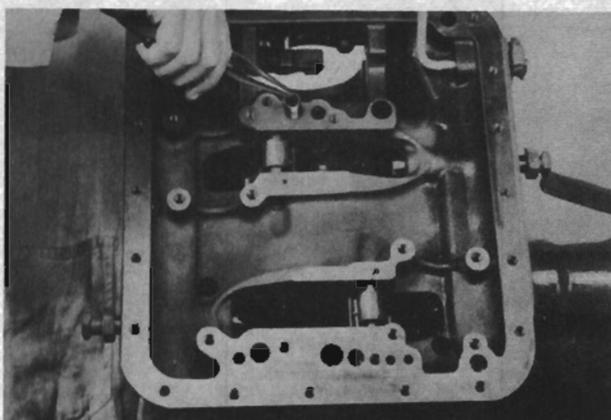
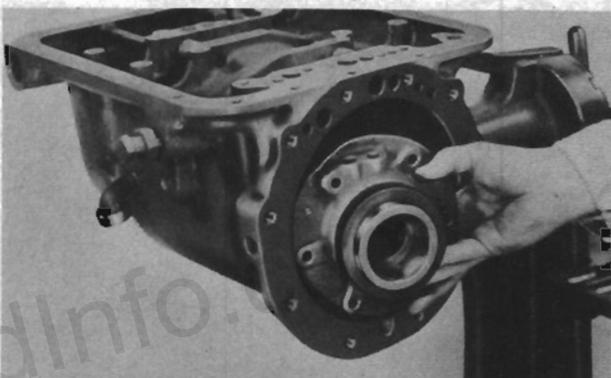

FIG. 301
FIG. 302
Remove the rear pump outlet tube (see Fig. 301) and the governor pressure tube from the transmission case and the rear pump and remove the six (6) cap screws and lock washers that attach the rear pump to the transmission case and remove the pump through the front of the transmission case (see Fig. 302). Remove the fiber thrust washer from the rear pump.